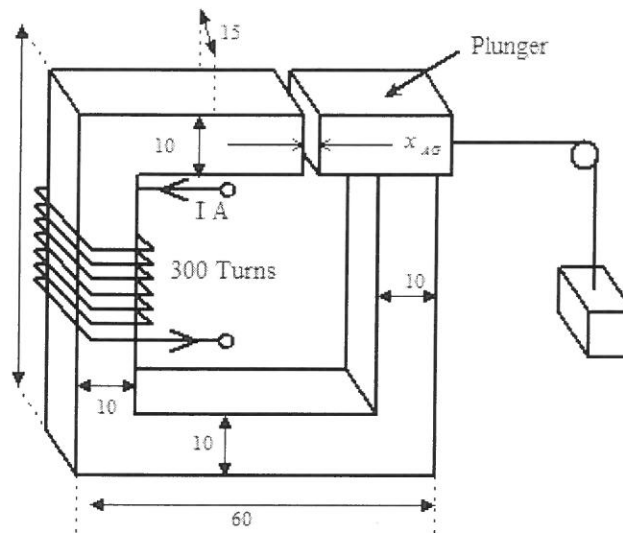

Figure C1
Consider the DC electromagnetic actuator shown in the Fig. C1 which is constructed from Armco Iron. The coil of the actuator comprises 300 turns and is supplied from a DC voltage source. All dimensions shown are in millimeters.
- Given that when an object is connected to the plunger as shown in Fig. C1, the plunger moves by a horizontal distance of 0.1 mm and thus increasing the length of the air-gap to 1.1 mm. Re-calculate the reluctance of the entire magnetic circuit for the condition when the length of the air gap x_{AG} has been increased to 1.1 mm for the input value of mmf calculated in part (a). Neglect fringing in the air gap but do not neglect the reluctance of the magnetic steel. Work to an accuracy of less or equal to five percent. [8]